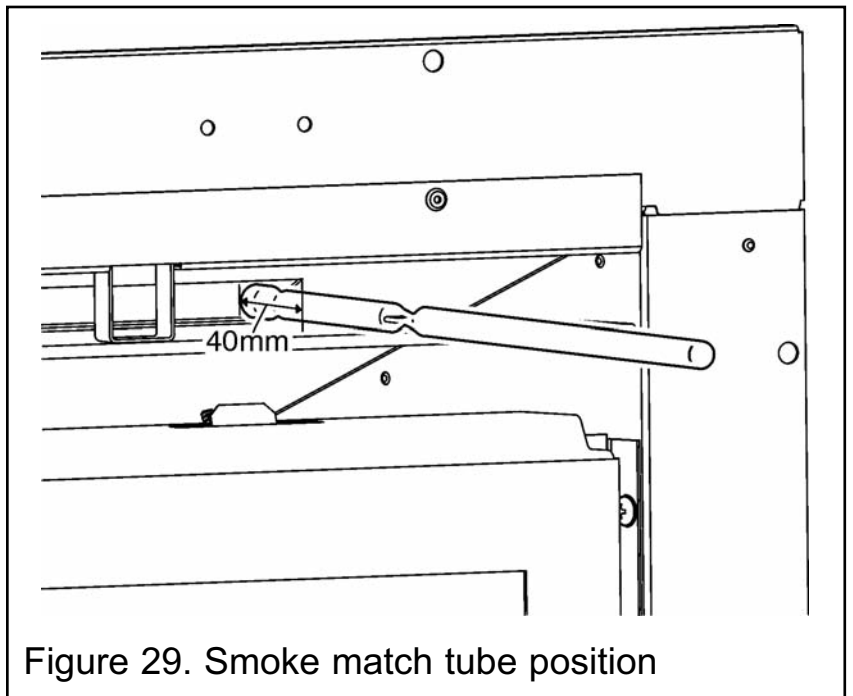

Figure 29. Smoke match tube position
4. At the top of the heater are two openings. The upper opening has a tapered rear that has an opening of its own. The smoke match should be placed horizontally into this opening so that it touches the right hand side of the opening. It should pass the upper part of the opening by 40mm (See figure 29).